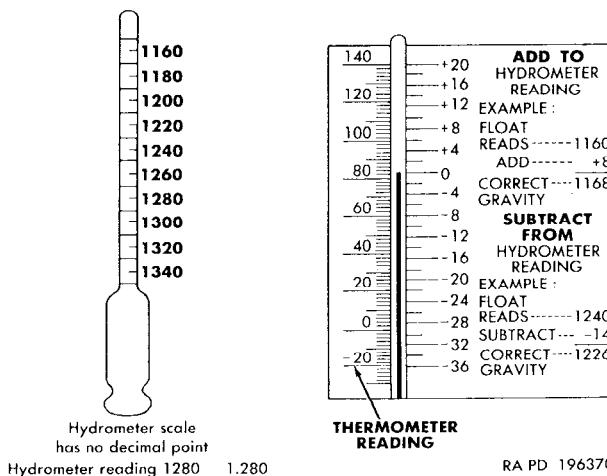

Figure 137. Hydrometer scale and temperature correction chart.
- (1) Remove the six fillercaps from each battery. Test and note the temperature of the electrolyte and test the specific gravity in each cell, using a hydrometer. Note the readings.
- (2) A specific gravity reading of 1.275 to 1.300 at 80° F. in each cell indicates a fully charged battery. A reading of less than 1.220 is unsatisfactory. Replace a battery if the reading is below 1.220 (par. 168).
- (3) If the temperature of the electrolyte is higher or lower than 80° F., compute the corrected specific gravity in accordance with the correction chart (fig. 137).
- (4) Compare the readings in the cells of the battery. The specific gravity in all cells of either battery should be the same, within 0.025. If variation is greater than this, an abnormal condition within the battery is indicated. Check the battery voltage drop (par. 90e). Replace either or both batteries, as required (par. 168).
- (5) Install the six fillercaps for each battery after completing the check.